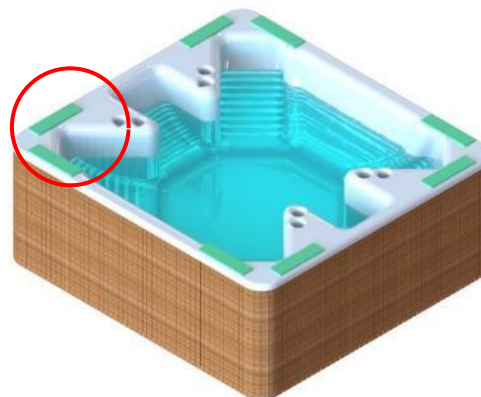

Figure 41
- 1) Attach the installation foam to the top of the hot tub near each corner using the masking tape provided in the part box. There must be at least two foam spacers per side. Do not stack two pieces of foam one on top of the other. (Figure 41)